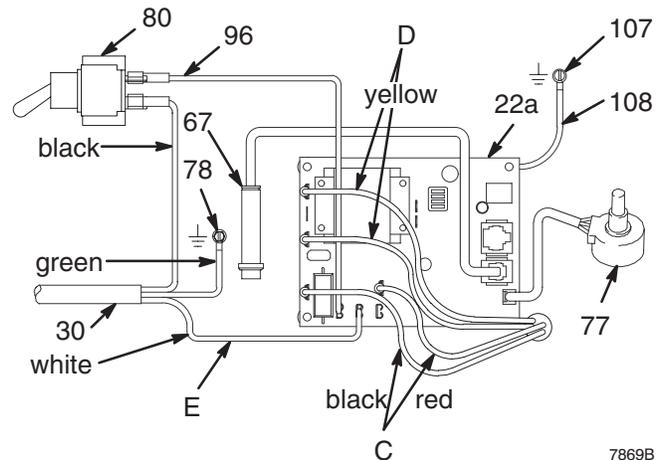

Fig. 13
4. Remove screws (25, 26). Lower control board (22a). Disconnect two leads (C) from motor to board. See Fig.13.
1. Connect red and black motor leads (C) together with a test lead. Turn motor fan by hand at about two revolutions per second. See Fig. 13.
8. Tap lower rear of drive housing (2) with a plastic mallet to loosen motor. Pull drive housing straight off motor while guiding pressure transducer wire (A) from motor. Do not allow gear (13) to fall. Read **CAUTION** on page 26.
9. Remove four screws (75) and lift motor off cart (70).
10. Align new motor with cart and reinstall screws (75).
12. Connect wires to motor control board (22a). Refer to Fig. 13. Install motor control board.
13. Connect piston rod (222) to drive housing; see page 22, **Installing Pump**, Step 2 and **WARNING** following it.
14. Install shroud (32) and drive housing cover (11).